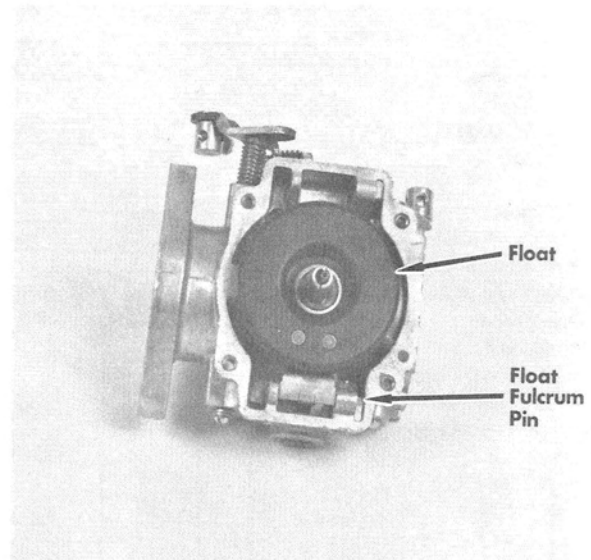
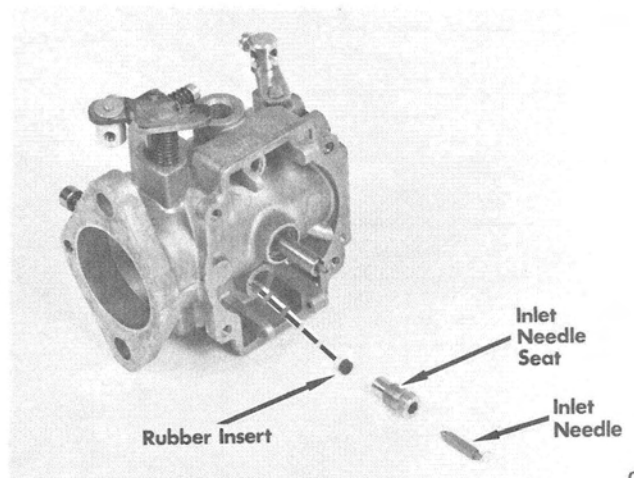

Figure 5. Float Fulcrum Pin
Figure 6. Inlet Needle Assembly
5. Remove float fulcrum pin, float, inlet needle and seat and gasket. (Figure 5) The brass cage has a rubber insert for the inlet needle seat. The insert enters the brass cage only one correct way. Looking at the insert, one side is flat and smooth, the other side has a ridge or rim molded around to the outside edge. This ridge is assembled away from the inlet needle point. Inlet needle and seat (Figure 6) is matched and tested for leaks, and parts should not be interchanged (must be kept in matched sets). **DO NOT** force cage, as this may strip threads or distort the rubber insert. Use a torque wrench to apply 40 to 50 in. lbs. torque. The needle and seat assembly must be clean to ensure correct performance.